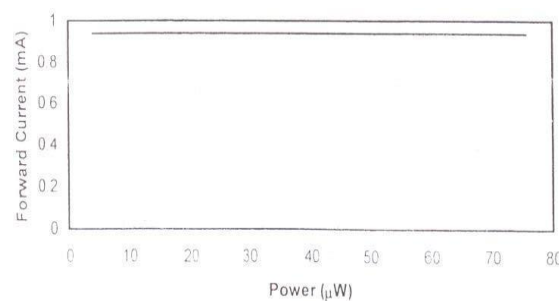

Figure 4 Power Vs Current graph
7. Plot the graph P vs I_f . The sample graph is shown in Fig.4